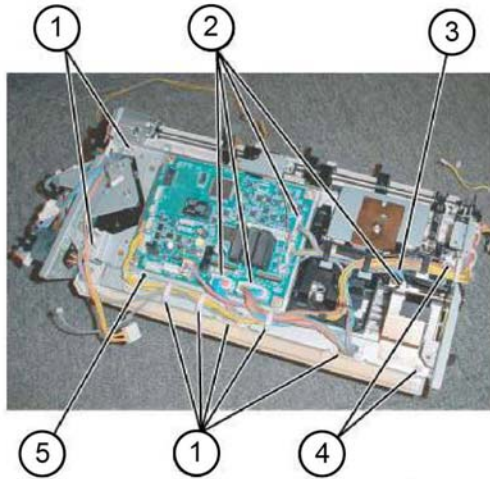

Figure 2 Bottom plate removal
5. Remove the bottom plate, Figure 2:
- a. Release the harness from the five clamps (1).
- b. Disconnect eight connectors (2).
- c. Release the harness from the retainers (3).
- d. Remove four screws (4).
- e. Remove the bottom plate (5).